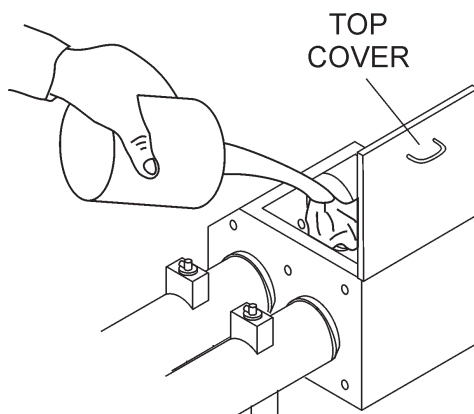

Figure 14. Filling the Lubrication Box
3. Check the oil level in the **lubrication box**. If low, fill with up to 3 gallons of SAE #30 motor oil (Figure 14). The oil level must be checked daily. The lubrication box should be serviced as described in the maintenance section.